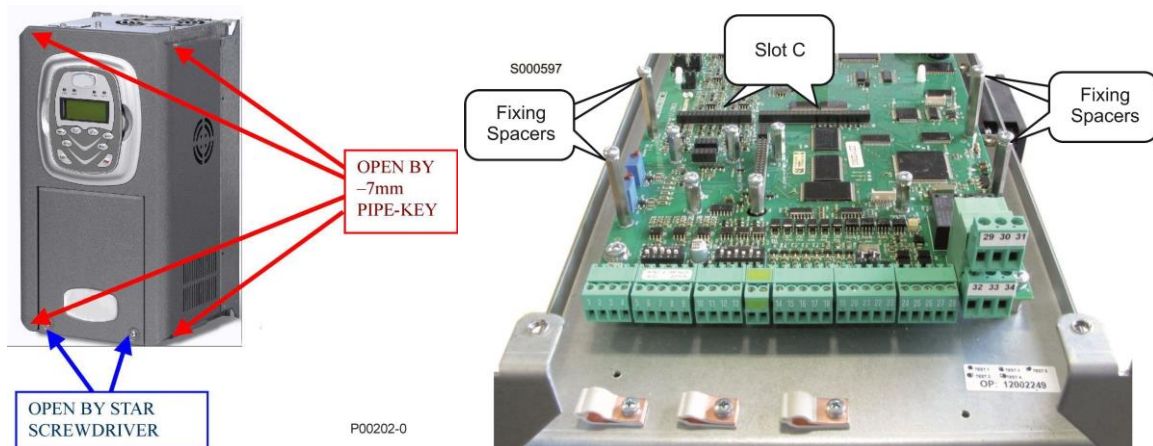

Figure 133: Removing the inverter cover; location of slot C
2. Remove the whole inverter covering by loosening the four hexagonal screws located on the top side and bottom side of the inverter to reach the fixing spacers and the signal connector (Figure 133 – Slot C.)